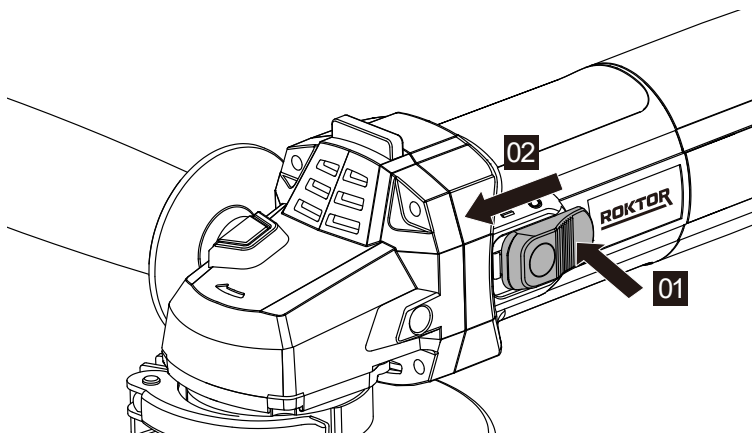

Figure 10
2. ON/OFF SWITCH (SEE FIG. 10)